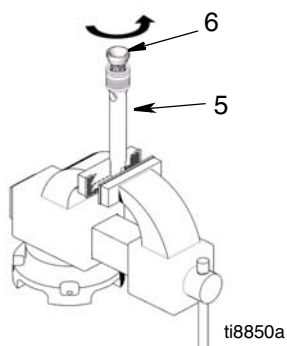

FIG. 6
6. (Fig. 6) Unscrew piston valve (6) from piston rod (5). Clean and inspect parts. The piston has a special thread locking/sealing patch. Do not remove the patch. The patch allows for disassembly/assembly procedures before it is necessary to apply Loctite® to the threads.